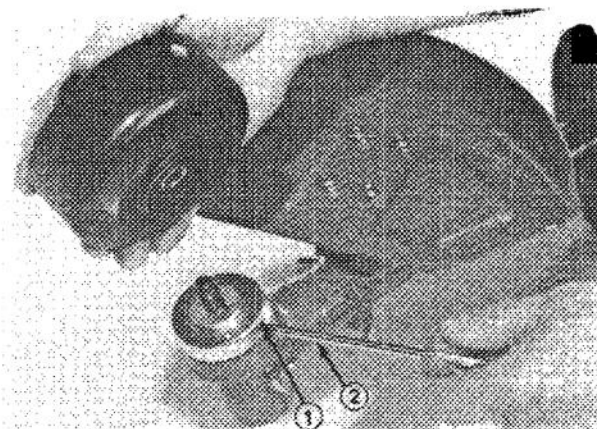

Figure 17
1. Rotate gear case shaft and blade fixing plate until a locking tool can be inserted through the holes in the plate and the gear case casting to lock the shaft (Fig. 17).